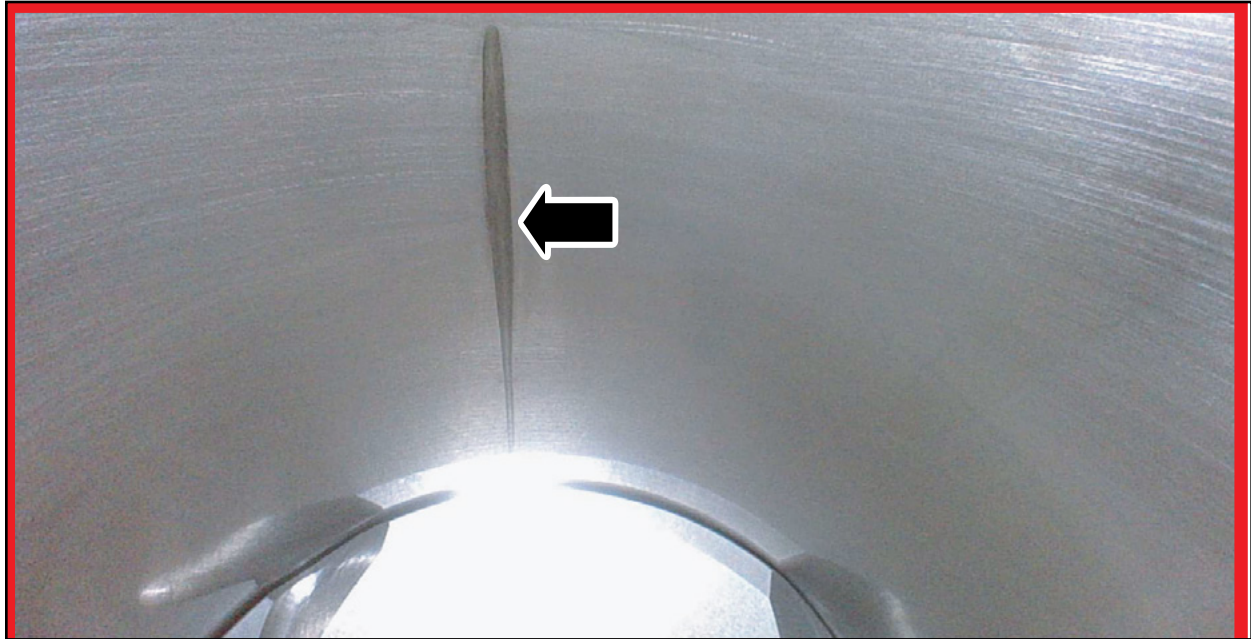

FIGURE 3
5. Using a borescope, inspect cylinder 1 and 4 for signs of vertical scoring. See Figure 3.
8. Do any of the cylinders have vertical scoring present on the cylinder wall? See Figure 3.